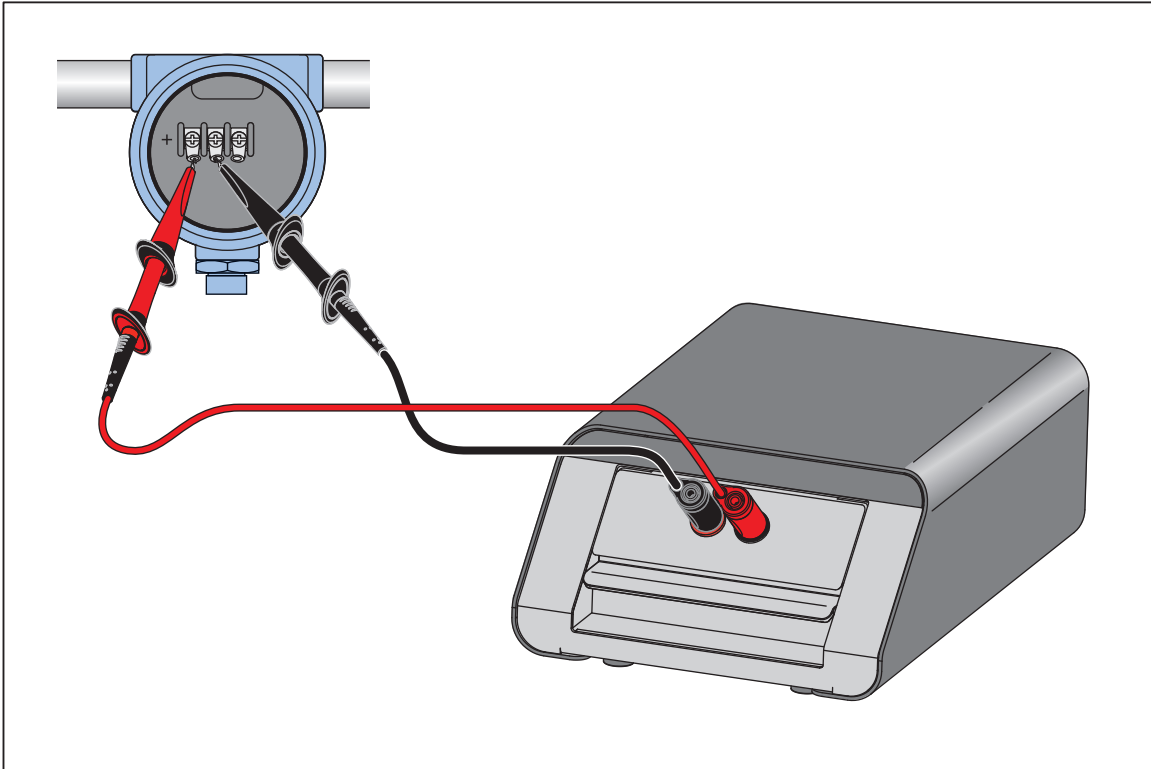

Figure 2. Transmitter Connection
1. Connect the test leads from the Product to the appropriate terminals on the HART device. Observe polarity. See Figure 2.